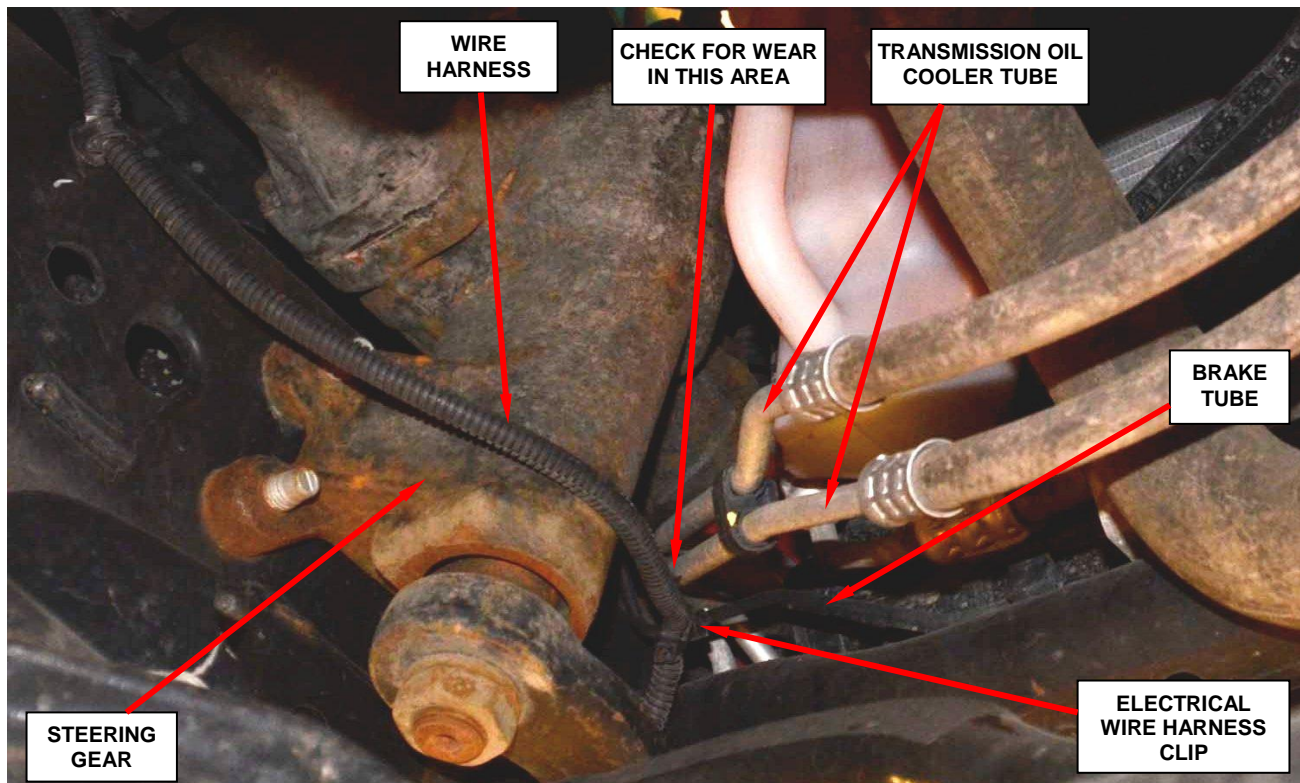

Figure 4 – Inspect Transmission Oil Cooler Tube for Wear Marks at the Wire Harness
9. Unclip the electrical wire harness from the brake tube (Figure 4).
10. Using diagonal cutters cut off the electrical wire harness clip that supports the wire harness at the brake tube (Figure 4).
11. Inspect the transmission oil cooler tube for wear marks where the electrical body harness crosses the transmission oil cooler tube (Figure 4):